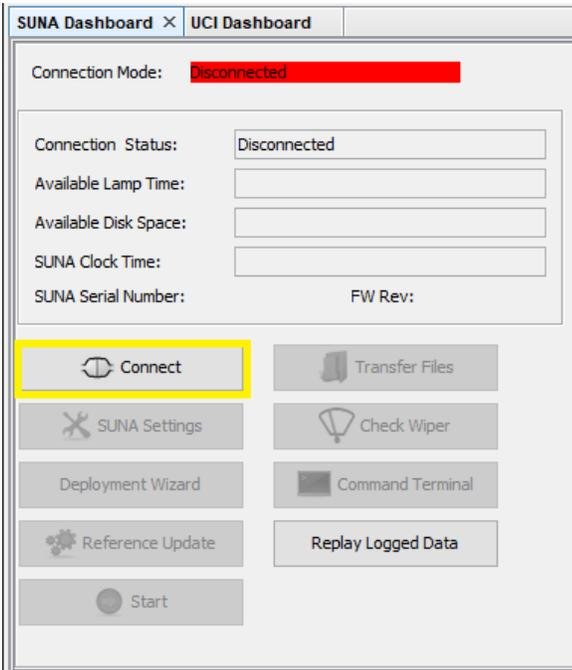

Figure 25. Select Connect
**STEP 8 |** Launch UCI 2.0.3 (formerly SUNACom) on a laptop. Select the “Connect” button under the SUNA Dashboard (Figure 25).